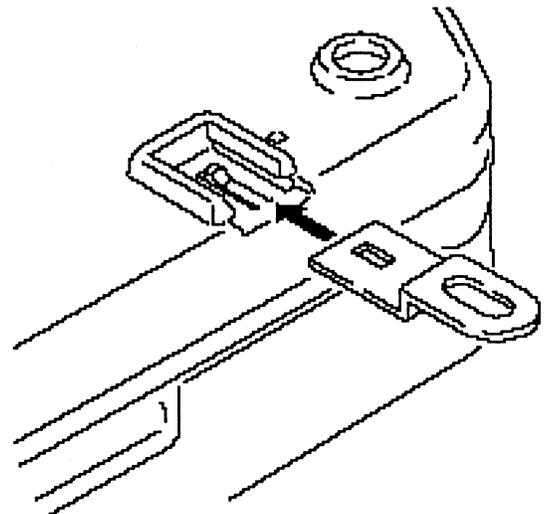

Figure 10: Mounting Bracket Installation
22. Install the four (4) mounting brackets to the underside of the 鄭” cartridge as shown in Figure 10.